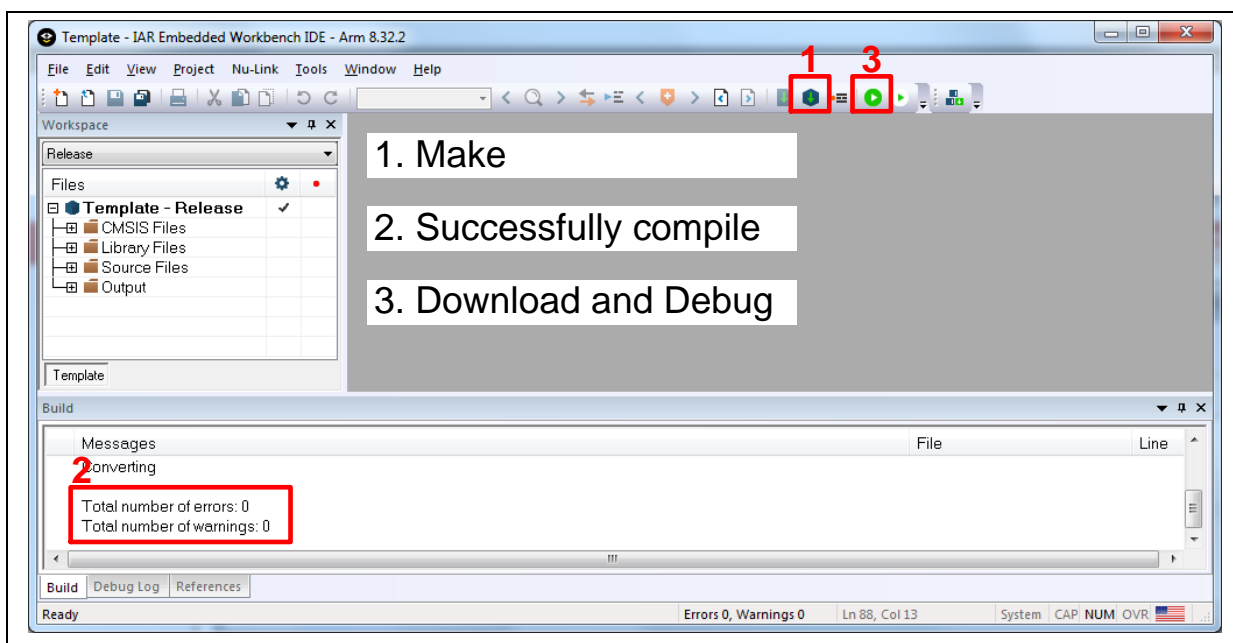

Figure 4-16 Compile and Download the Project
3. Make target file as presented in Figure 4-16. After successfully compile the project, download code to the flash memory and enter debug mode.